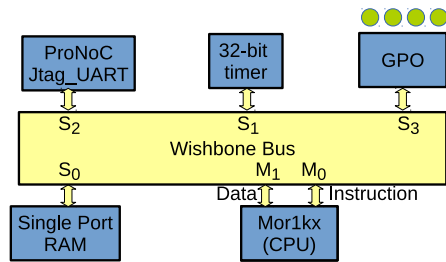

Figure 5.1: The schematic of desired SoC in this tutorial.
Schematic Figure 5.1 illustrates the desired hardware architecture in this tutorial. This architecture consists of:
7. A Clock source (not shown in Figure 5.1).
2. In parameter setting set `M` (master interfaces number) as 2 and `S` (slave interfaces number) as 4. These values are obtained from Figure 5.1. You can change them later if you want to add/remove any IPs.